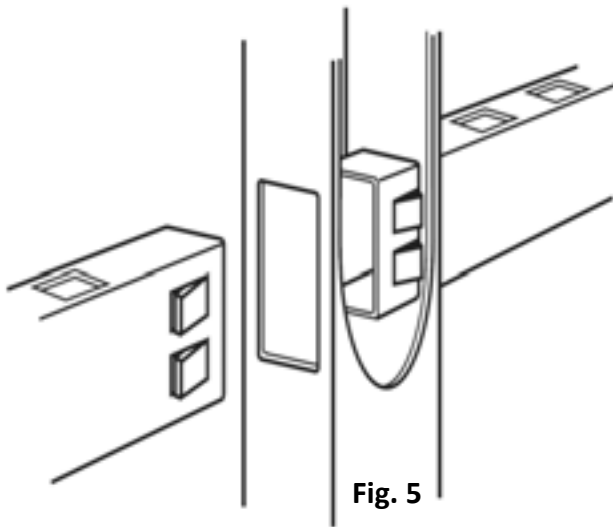

Fig. 5
**Step 3.** Slide the rail into the bottom hole in the post (Fig. 5). Proceeding down the fence line, place the next rail into the next hole and insert the bottom rail into each post.